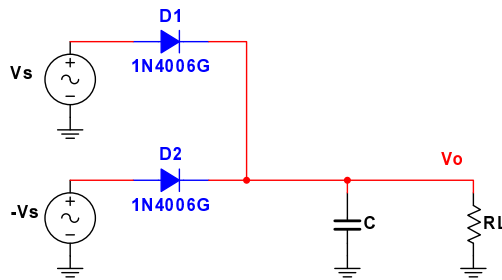

Figure 5: Power supply circuit
Design the power supply in Fig. 5 to have 3V output voltage (V_o) with a maximum load current of 3mA and 10% maximum ripple, where V_s is a 250-Hz sine wave. Determine the peak amplitude of V_s and the value of C .
2. Draw the schematics for the power supply circuit in Fig. 5 with the calculated values, and obtain the **time-domain waveform** for the output voltage using **transient simulation**. Measure the peak output voltage, maximum ripple, and the peak current on the diodes and the load resistor.
2. Build the power supply circuit in Fig. 5 with the simulated component values, and obtain the **time-domain waveform** for the output voltage using the **scope**. Measure the peak output voltage and the maximum ripple.
5. For the DC power supply in Fig. 5: